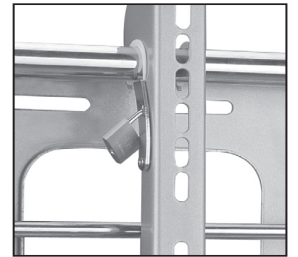

Fig. 6
2. Move the safety tab located on each arm into position to avoid having the display accidentally lifted from the mount. A padlock can be inserted into one of the tabs to help prevent theft of your display (Fig. 6).